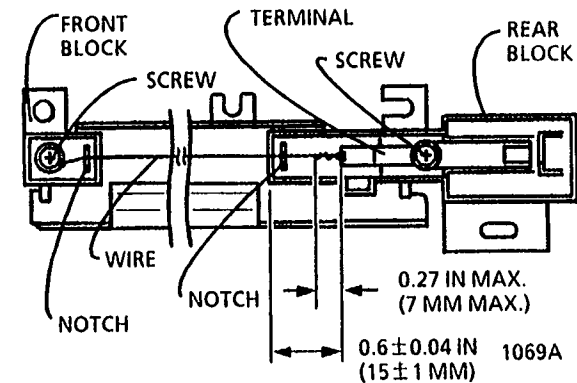

Figure 3. Threading and Tensioning the Transfer Corotron Wire
2. (Figure 3): Install the terminal into the rear transfer corotron block and install the screw.
3. (Figures 3 and 4): Thread the wire through the notches on the blocks and loop the other end one-half rotation around the screw on the front block, between the washer and the screw head.
4. (Figure 3): Adjust the wire tension.